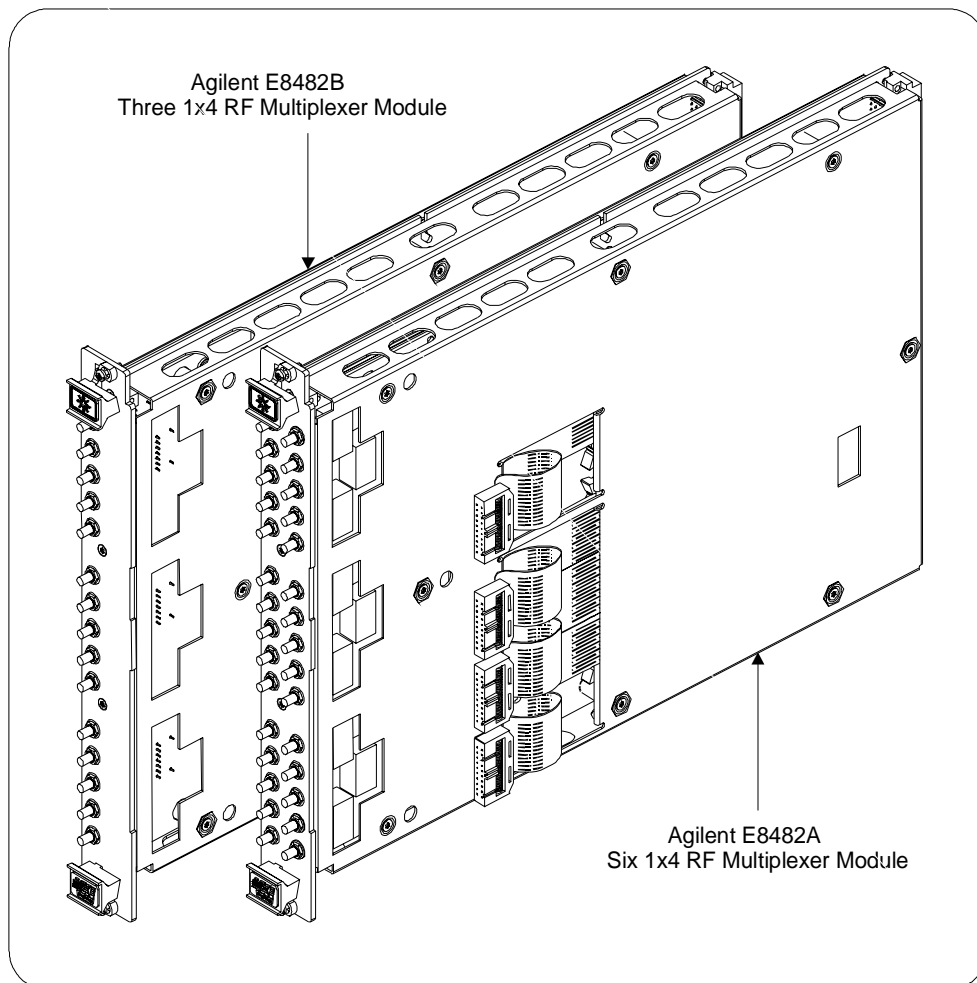

Figure 1-1. Agilent E8482A/B RF Multiplexer Modules
This manual contains information required to test, troubleshoot, and repair the Agilent E8482A/B Six/Three 1x4 RF Multiplexer module (see Figure 1-1). For more information on the RF Multiplexer modules operation, see *Agilent E8482A/B Six/Three 1x4 RF Multiplexer Module User's Manual*.
2. Check the shipping contents and verify they are complete. Normally, the module you ordered (E8482A or E8482B as shown in Figure 1-1) and a User's Manual should be included. If the contents are incomplete or with mechanical damage/defect, contact Agilent Technologies (see page 10).